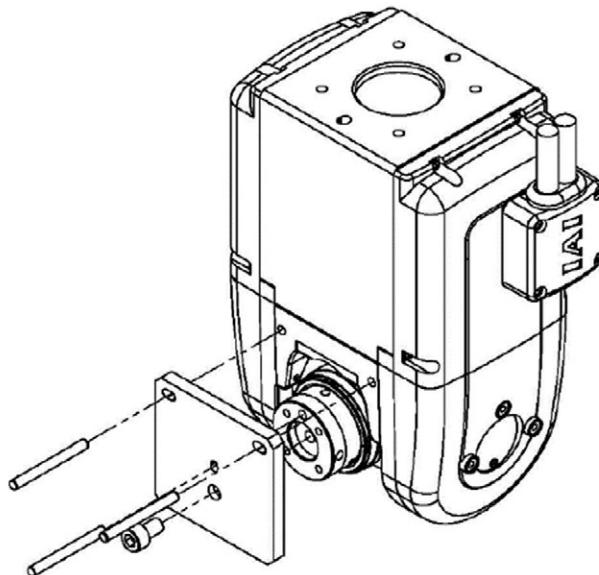

Figure 8.2-7 Wrist unit S / M standard posture
- 5) The "Jog to Standard Posture" screen is displayed. Click " \leftarrow (-)" and " \rightarrow (+)" to move the B and T axes closer to the reference posture. Refer to Fig. 8.2-7 for the standard posture of the B and T axes. Also, change "Vel" and "Inc" as necessary. Click "OK" when it is near the standard posture. To manually approach the standard posture, just click "OK".